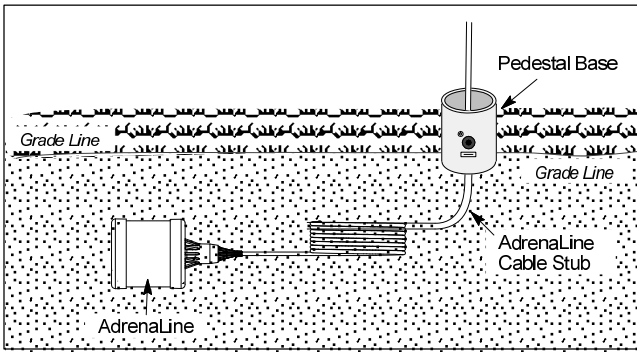
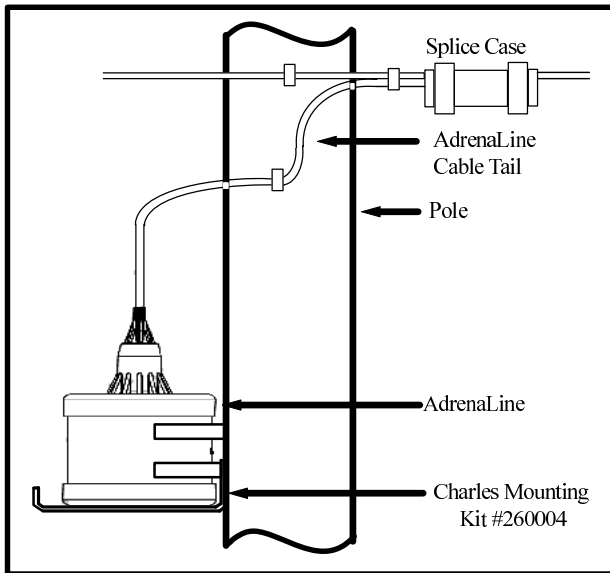

Figure 2. Buried Placement Example with Buried Cable and Above-Grade Pedestal
Figure 3. Aerial Installation Example on a Pole
8. □	Mount or place the AdrenaLine unit. Gather all materials, follow all safety precautions and local codes, prepare the installation site, and mount or place the unit. See Figure 2 and Figure 3.